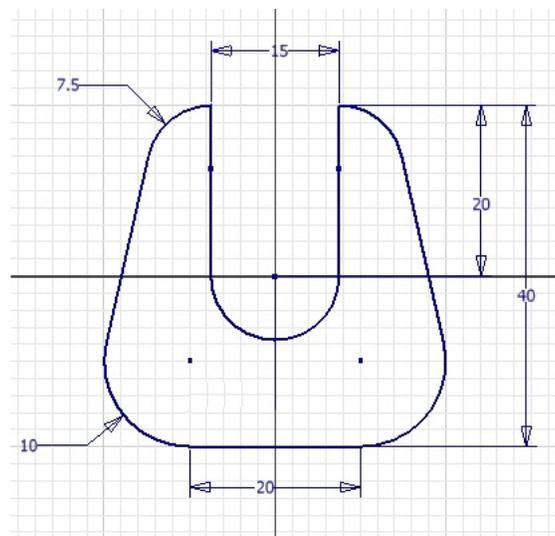

Figure 3-61 Dimensioned sketch for Tutorial 3
- b. Invoke the Sketching environment and add the required dimensions and constraints to the outer loop, refer to Figure 3-61.
With this step, all the dimensions have been applied to the sketch, refer to Figure 3-61, except the horizontal dimension between the center points of arcs 4 and 6 or arcs 8 and 6. The need of these dimensions depends on the constraints and dimensions assumed while drawing the sketch. If the sketch gets overconstrained, the **Autodesk Inventor Professional** message box is displayed. Choose **Cancel** from the message box. In this case, the dimension has already been assumed.